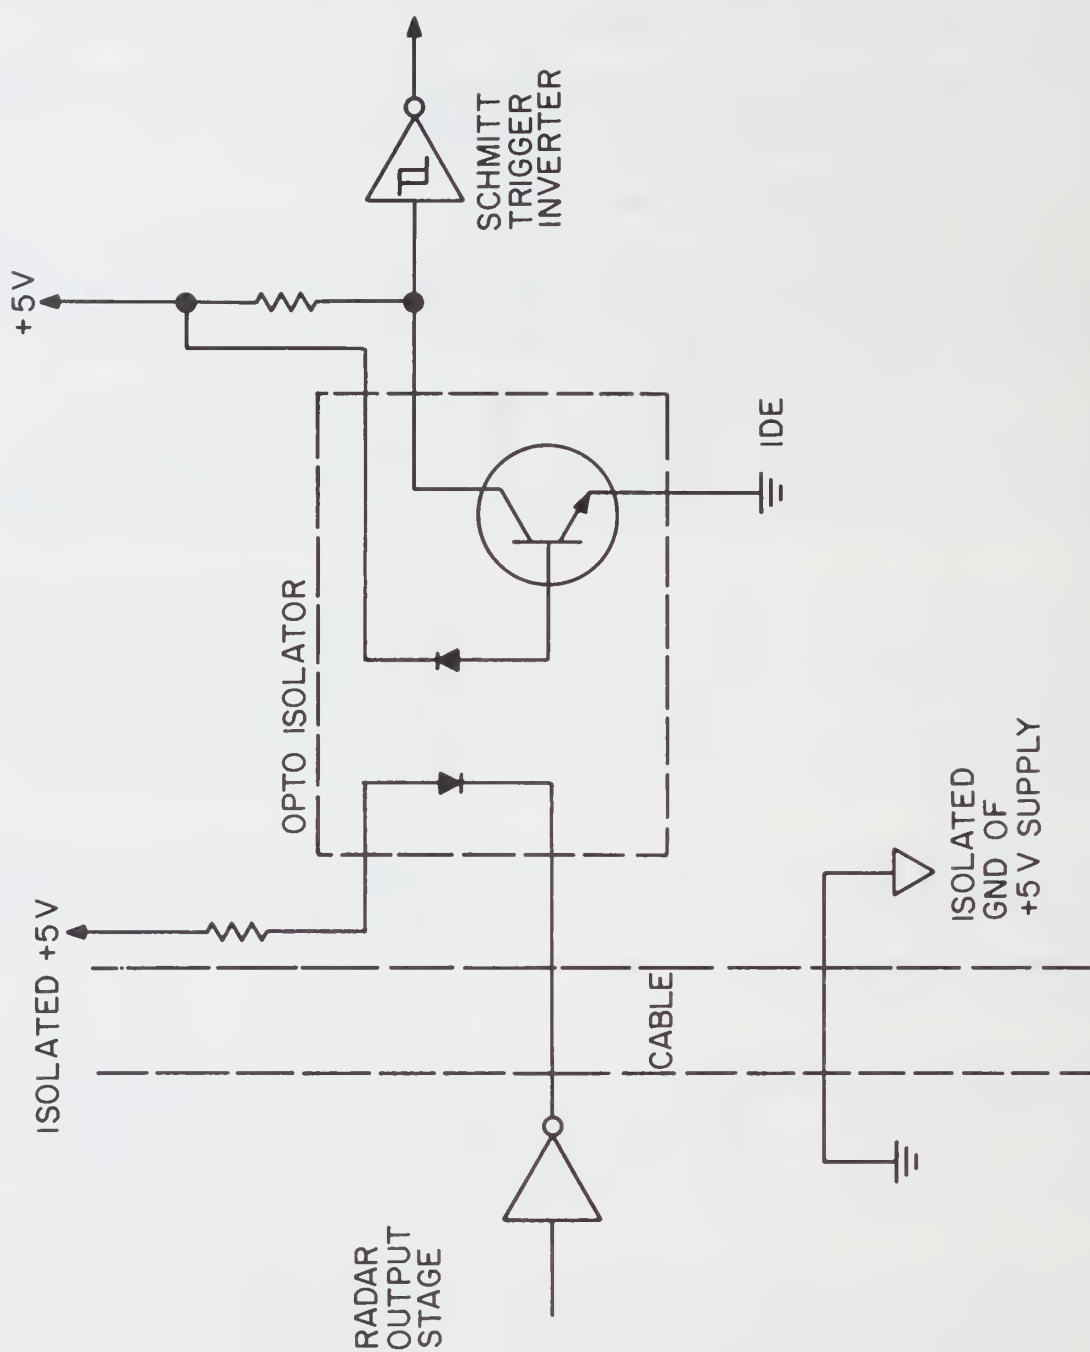

Figure 2-18. Typical Input Isolator Stage
**2.4.7.3** A typical input isolator stage is shown in figure 2-18. The outputs of the optical isolators are all buffered by schmitt trigger inverters (U11-U17) to refine the logic levels of the signals. The DVIP data and several of the status signals are of opposite logic levels for the two types of radars. This is accommodated for by using inverting or noninverting buffers (U8 = 54LS244 for WSR-74 or U8 = 54LS240 for WSR-57) to gate the DVIP data onto the data bus while the difference in status signal polarities is accommodated for by preset jumper options (E5 through E16). Jumper positions for the two types of radar are shown in Paragraph 9.5.3 of Section 9).